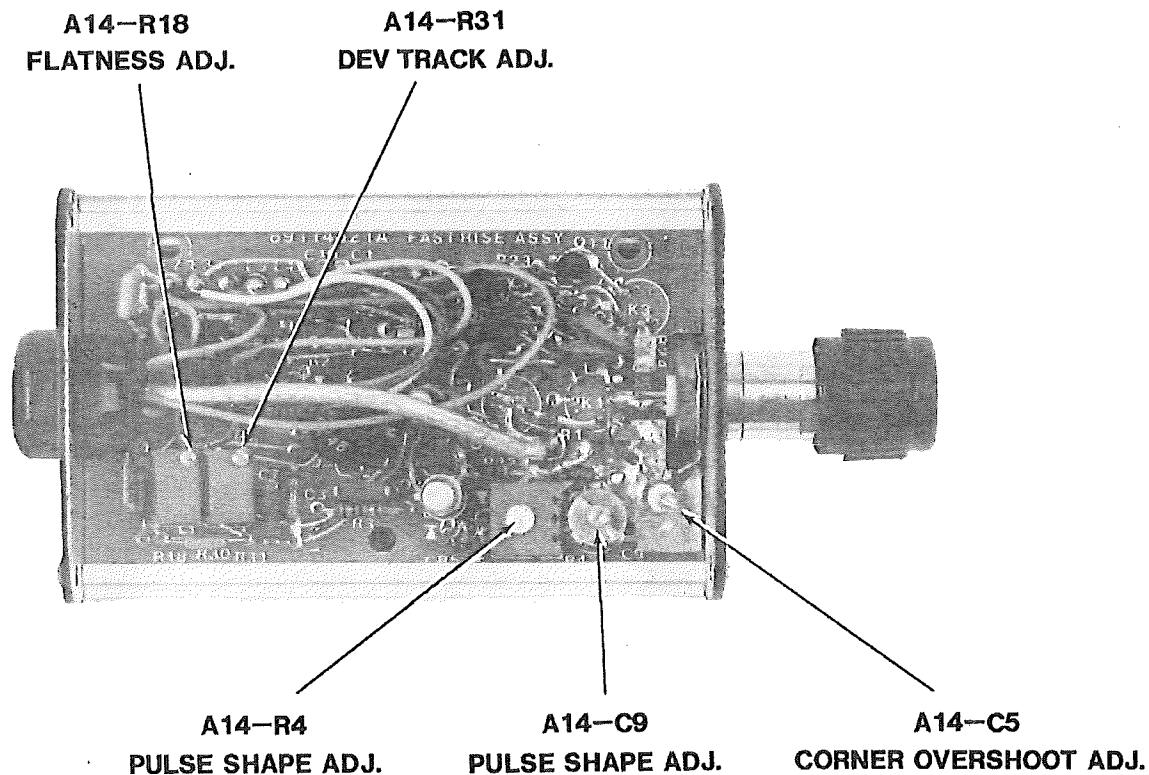
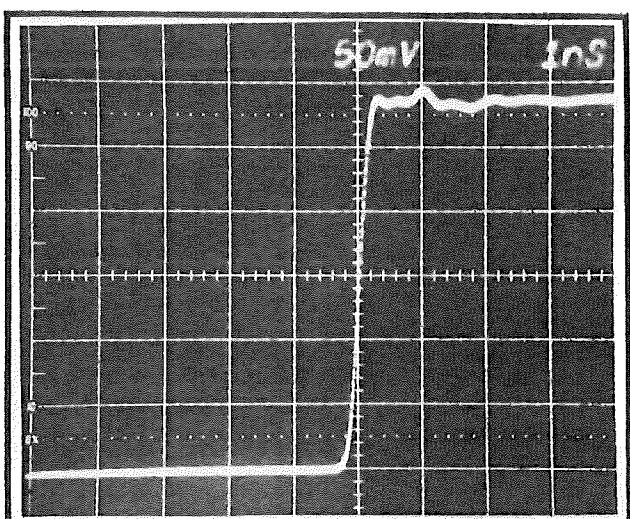

Figure 5-12. Location of Adjustments, 61271C
Figure 5-13. Fast Rise Pulse Display,
f. Refer to figure 5-12 for location of adjustments in the 61271C Head. See figure 5-13 for pulse shape.